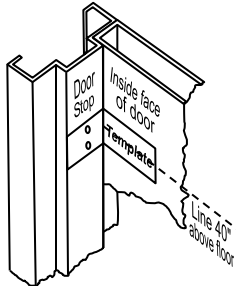

Fig. 6 – Mounting the Strike
4. Drill the holes as marked on the door and the mullion. See fig. 6.